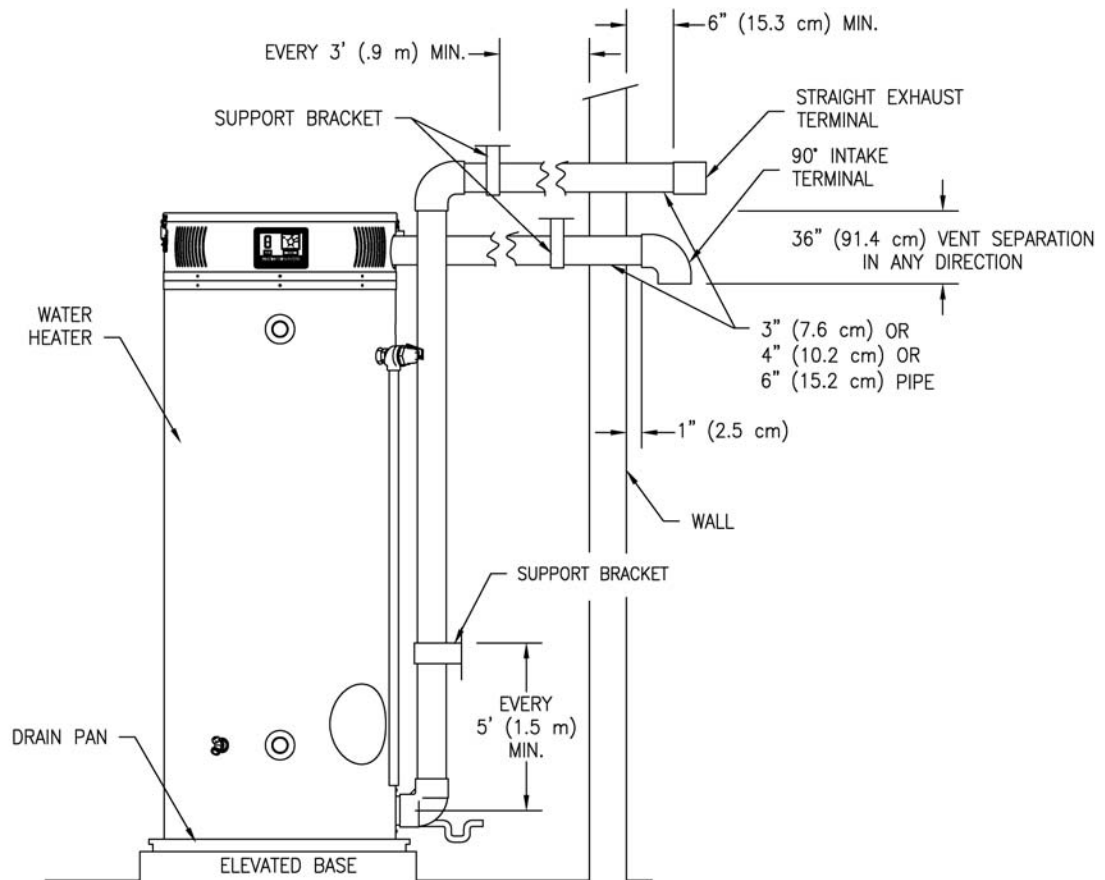

Figure 12. Typical Horizontal Direct Vent System.
2. Use the proper cement to secure the exhaust vent and air intake terminals provided with the water heater to the pipes. The distance between the back edge of the exhaust vent terminal and the exterior wall (see Figure 12) must be 6 inches (12.7 cm) more for the exhaust vent terminal than the air intake terminal. Use the proper cement or sealant and assembly procedures to secure the vent connector joints between the terminal and the blower outlet. Provide support brackets for every 3 feet (.91 m) of horizontal vent beyond the intake terminal.